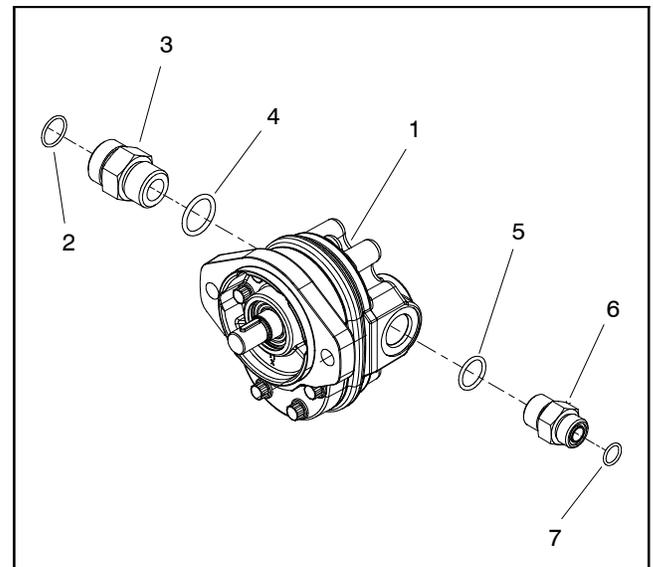

Figure 10
8. If necessary, remove fittings from pump and discard fitting O-rings (Fig. 10).
1. If fittings were removed from gear pump, lubricate and place new O-rings onto fittings (Fig. 10). Install and tighten fittings into pump ports (see Hydraulic Fitting Installation in the General Information section of Chapter 3 - Hydraulic System).
4. Make sure that spider coupling (item 26) is positioned into coupling jaw on engine shaft.
6. Secure gear pump to flange adapter with two (2) cap screws and flat washers.
2. If fittings were removed from manifold, lubricate and place new O-rings onto fittings (Fig. 10). Install and tighten fittings into manifold ports (see Hydraulic Fitting Installation in the General Information section of Chapter 3 - Hydraulic System).
3. Position relief valve manifold to engine mount plate and secure with two (2) cap screws and flange nuts.